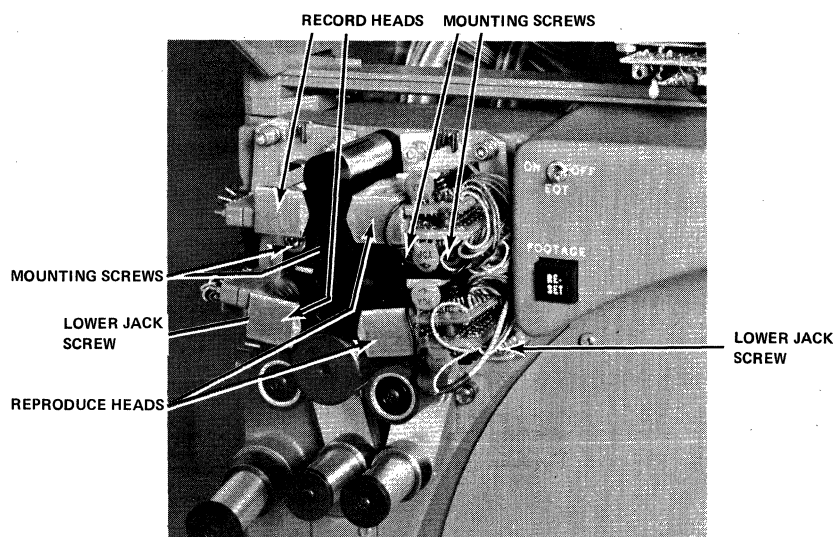

Figure 7-10. - Record/Reproduce Head Area
12. HEAD REPLACEMENT - Refer to Figure 7-10